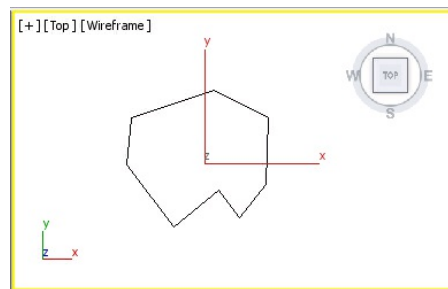

Figure 11-92 A close line spline created in the Top viewport
3. Create a close line spline, as shown in Figure 11-92.